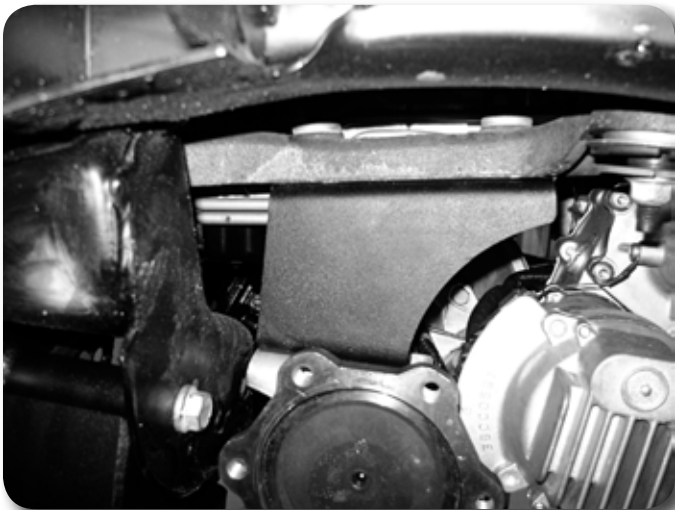

Figure 29 - Shown with differential already installed
37. Install the new passenger's side differential bracket to the original mounting studs with the factory nuts **Figure 29**. The bracket mounting surface with 3 holes in it goes to the frame and the open face toward the inside of the vehicle. Torque nuts to 65 ft-lbs.